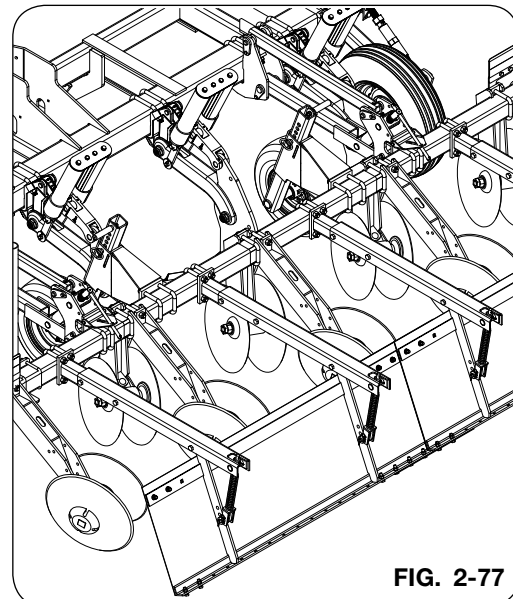

FIG. 2-77
4. Base panel weldments overlap each other and secure the top panel weldments into position using the carriage bolts 1/2"-13UNC x 1 1/4" (9388-103) and nuts/flange 1/2"-13UNC (91267) as shown in Fig. 35. Secure the bottom of the panel weldments using the capscrews 1/2"-13UNC x 1 1/2" (9390-101) and locknuts 1/2"-13UNC (9800) (Fig. 2-77).